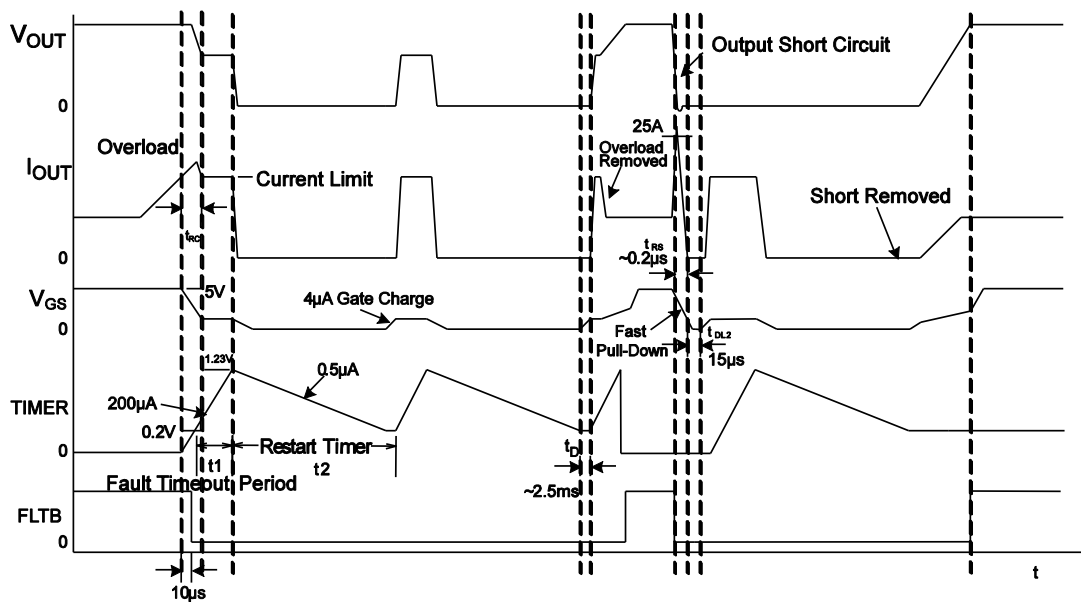

Figure 3: Over-Current Protection (Auto-Retry Mode, AUTO = High)
Floating the AUTO pin or pulling it above 2.5V causes the device to operate in hiccup mode (see Figure 3). At the end of the fault timeout period, the MOSFET turns off, and a low-current (0.5μA) sink discharges the external capacitor (CT).